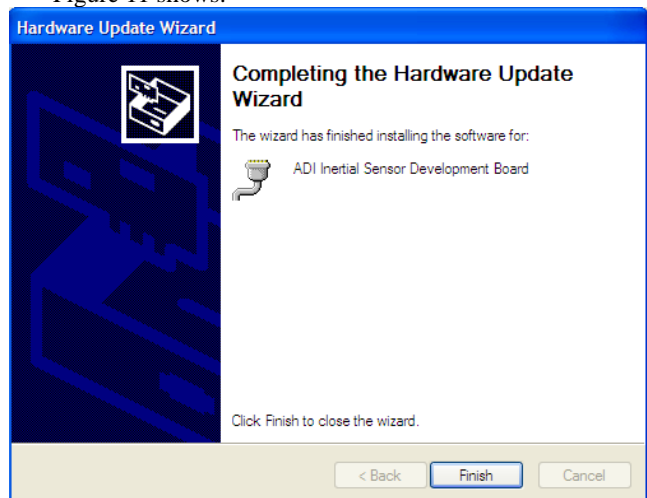

Figure 11. Finish Driver Installation
12. Click **Finish** to complete the USB driver installation as Figure 11 shows.